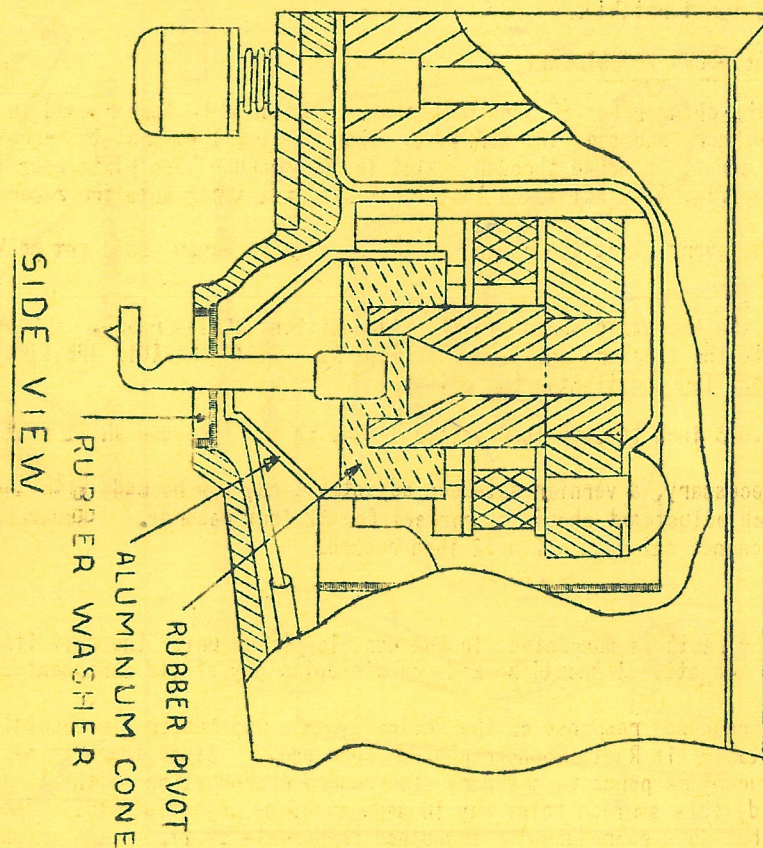

FIGURE 7
- (1) Remove present needle with a pair of tweezers by pulling straight out. CAUTION: DO NOT PULL SIDEWAYS ON THE NEEDLE OR THE APEX OF THE ALUMINIUM CONE MAY BE DAMAGED.
- (2) Holding the new needle with the fingers, position the extended end containing the jewel toward the front of the reproducer.
- (3) Insert the blunt end of the needle into the small hole in the rubber dust cover. Gently move the needle around until the hole at the apex of the cone is located. Watch the needle as it is pushed through, to be sure the shaft of the needle is parallel to the front of the reproducer, then gently push the needle straight into the hole provided in the rubber pivot. (See fig. 7.)